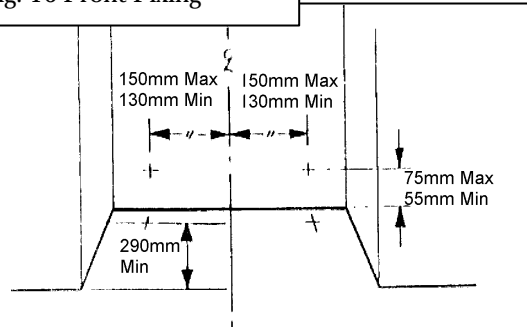

Fig. 17 Eyebolt Positions
7.1.2.1 Drill two holes in the rear wall or floor of the fireplace for the eyebolt plugs. The holes should be drilled within the range of positions shown in figure 17 using a no.12 masonry drill. The holes should be equidistant each side of the centre line of the fireplace to ensure that the appliance finishes centrally in the opening when tension is applied to the cables.